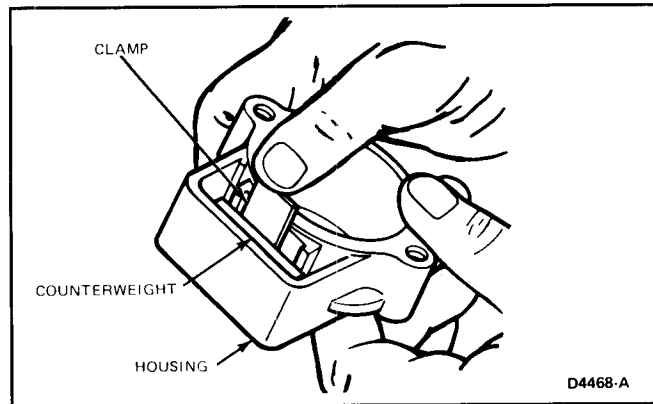

FIG. 26 Counterweight—Installation
5. Insert the counterweight into the governor hub and secure with clamp (Fig. 26).